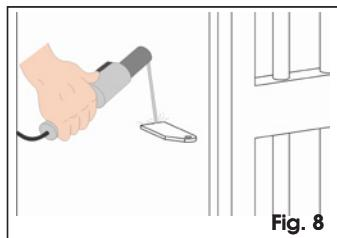

Fig. 8
- For iron pilasters, weld the bracket directly on the pilaster (Fig. 8).